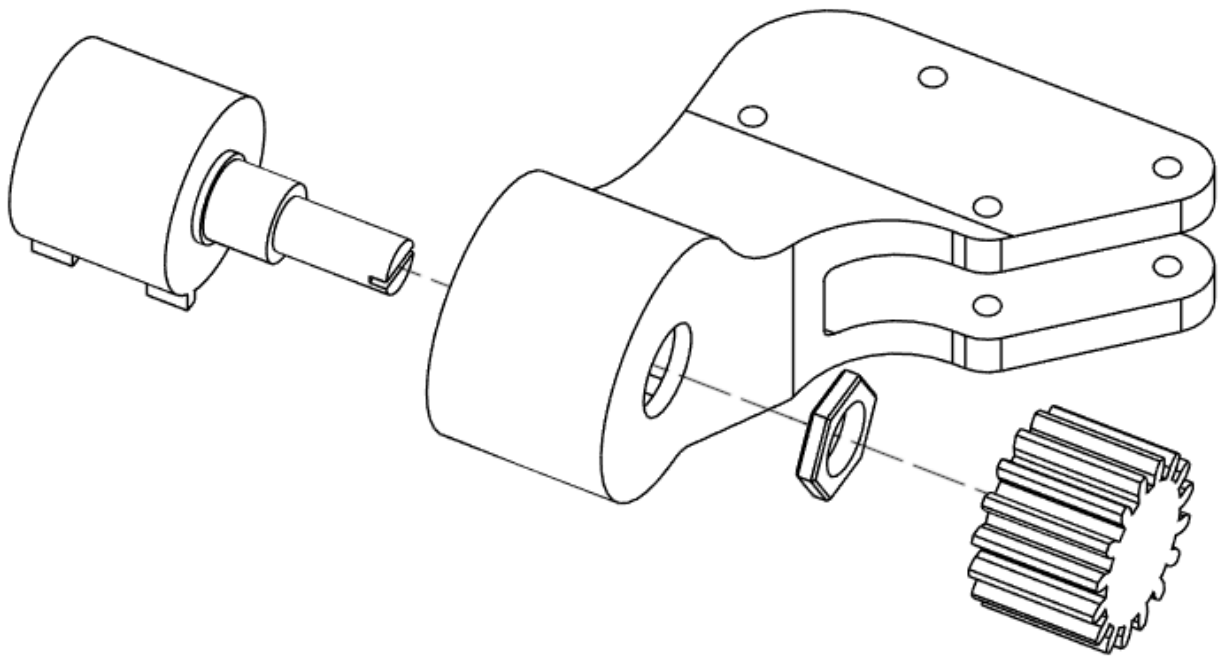

Figure 0.4 - Potentiometer Assembly
2. Fasten Potentiometer to Potentiometer Holder as shown in Figure 0.4
3. Assemble Potentiometer Gear on Potentiometer shaft as shown in Figure 0.4